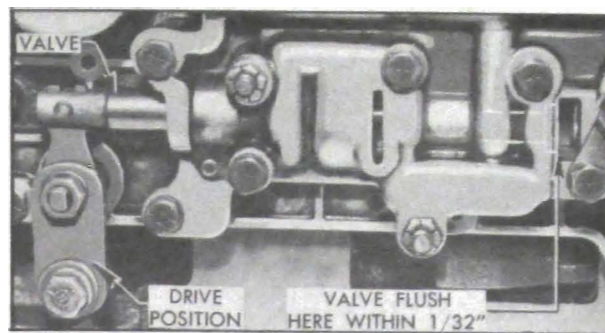

Figure 5-100—Position of Control Valve in Direct Drive Range
11. Move shift lever two detent notches to Direct Drive position and note position of control valve. The inner end of valve should be within  $\frac{1}{32}$ " (either way) of the edge of hole in valve body indicated in figure 5-100.